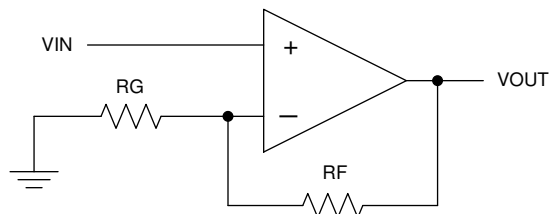

图 9-5. Schematic Representation
- Place the external components as close to the device as possible. As shown in 图 9-5, keep RF and RG close to the inverting input to minimize parasitic capacitance.